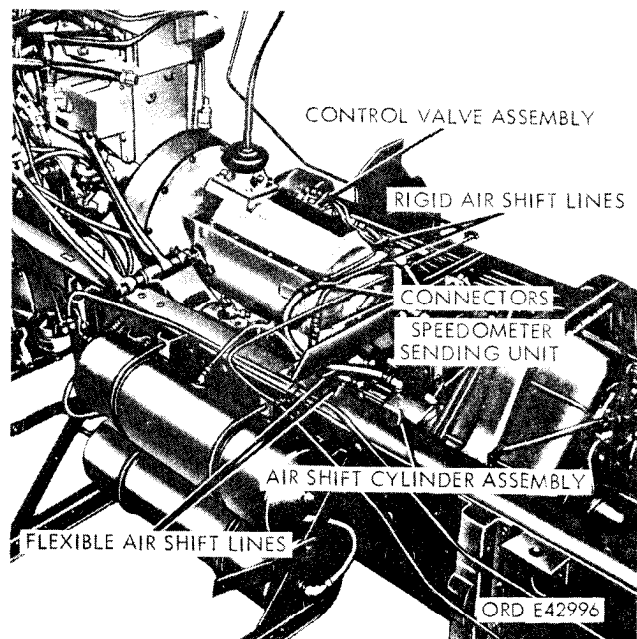

Figure 2-168. Removing air shift lines and connectors.
*a. Removal.* From underneath the vehicle, unscrew the air shift line connectors (fig. 2-168) at the junction of the rigid and flexible lines.
*c. Installation.* Connect the flexible lines at the left front of the transfer to the rigid lines at the top rear of the transmission. Tighten the connectors (fig. 2-168).